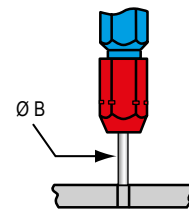

Fig. 2
**“NO GO”** - Insert the end (red) of the gauge as shown (Fig. 2).